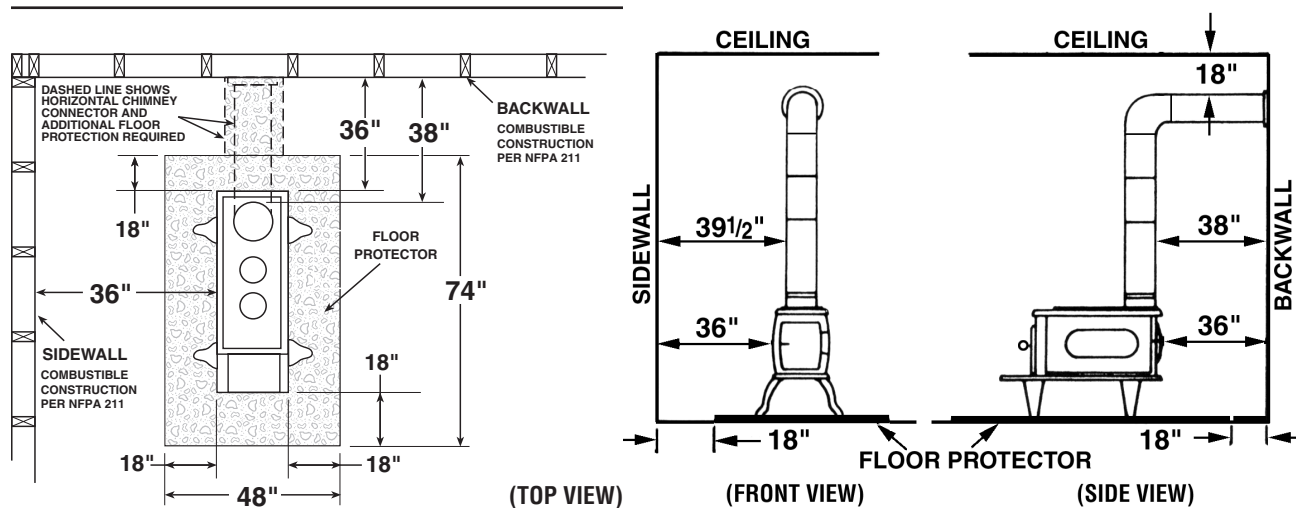

Fig. 1 – Minimum Clearance Dimensions from Combustible Surfaces
1. The installation of this stove must comply with your local building code rulings. Please observe the clearances to combustibles (see reference figures 1 & 2).
1. The stove must be placed on solid concrete, solid masonry, or when installed on a combustible floor, on a listed floor protector, such as Hy-C or Imperial Model UL 4874BK or equivalent. The base must extend at least 18" beyond the front of the door, 18" to the sides of the stove, and **must** extend under the stove pipe if it is elbowed towards a wall (see figure 1 and consult local building codes and fire protection ordinances.)
3. After observing the clearances to combustible materials (figure 1 & 2), locate your floor protector accordingly (figure 1) and carefully place the stove in your selected location. Install stove pipe, elbows, and thimble as required, utilizing either a recently cleaned and inspected 6" masonry chimney or a 6" i.d. listed chimney. Maximum 64 square inches.
4. Use 6" round black stove pipe, *not galvanized* stove pipe. Secure pipe sections with three (3) sheet metal screws in each stove pipe and/or elbow joint to firmly hold the pipe sections together. **DO NOT CONNECT THIS STOVE TO ANY AIR DISTRIBUTION OR DUCT SYSTEM.**
CAUTION: (FIRE HAZARD) CARPETING AND OTHER COMBUSTIBLE MATERIAL MUST NOT COVER THE FLOOR PROTECTOR. THESE MATERIALS MUST REMAIN OUTSIDE OF COMBUSTIBLE CLEARANCES, SEE FIG. 1- 2.
5. Recheck clearances from the stove, connector stove pipe, and corner clearances using the illustrations (figure 1 & 2) and your local building codes or fire protection ordinances.